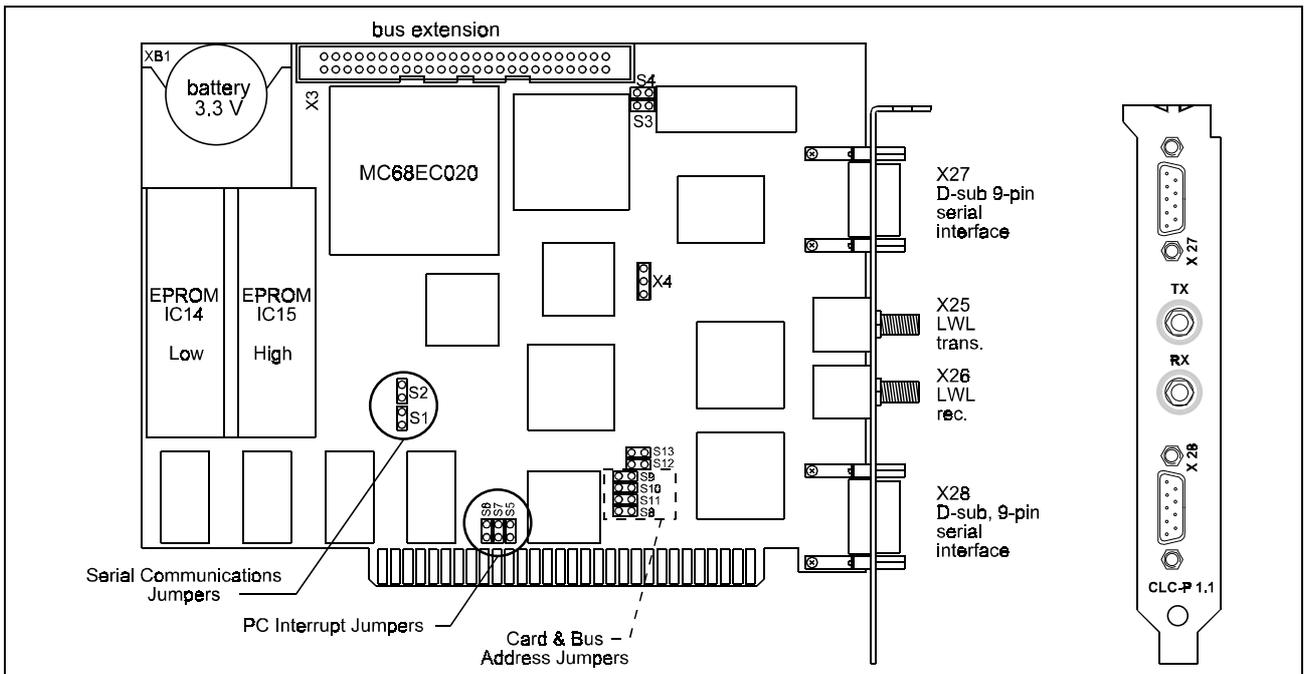

Figure 2-7: CLC-P01 Jumper Location
6. Select an available card number and set jumpers S8 thru S11 on the CLC-P01 card to match the available base memory found in the previous step. Refer to *Figure 2-7: CLC-P01 Jumper Location*
Interrupt	IRQ Jumpers (refer to figure 2-7)